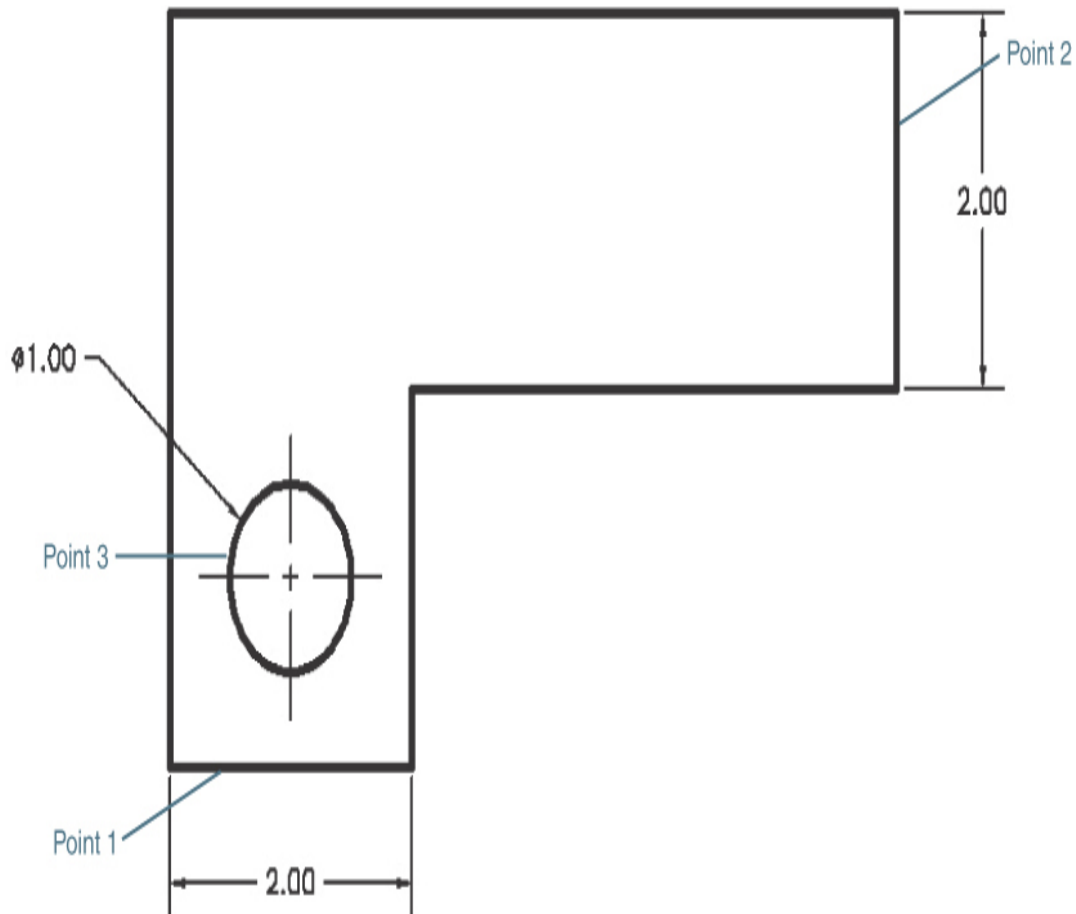

Figure 2-37
- 4 Pick the line at the bottom of the drawing (point 1 in Figure 2-37). AutoCAD starts dragging a dimension from that line and prompts you to *Specify dimension line location or second line for angle* ↓.
- 6 Pick the line at the right side of the drawing (point 2 in Figure 2-37).
- 8** Select the circle and pick a point above and to the left of the circle (point 3 in Figure 2-37). The dimension is placed, and AutoCAD prompts you to *Select objects or specify first extension line origin or* ↓.